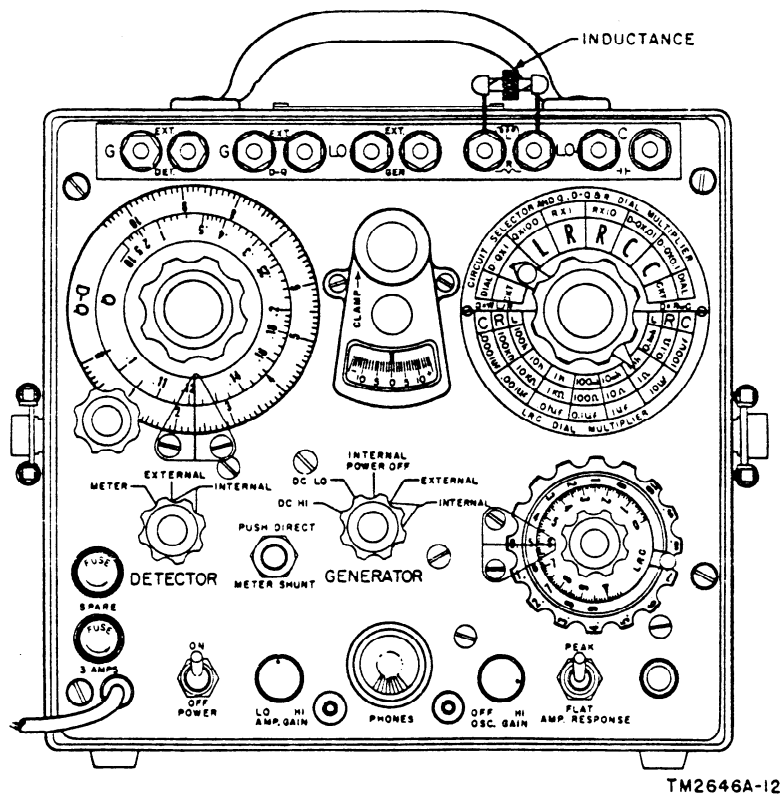

Figure 11. Bridge controls set for measurement of inductors with storage factors (.02 to 10.5).
a. Connect the unknown inductor to the binding posts marked L and R (fig. 11 and 12). Connect the shield, if any, to the binding post marked LO.
b. Set the circuit selector switch to L and D-Q x 1 for an inductor that has a storage factor (Q) of less than 10.5, and to L and Q x 100 for an inductor that has a storage factor between 9.5 and 1,000. If the approximate storage factor is not known, or cannot be determined, select either position of the circuit selector switch and try to obtain a null indication. If a null cannot be obtained in the position selected, the other position of the circuit selector switch is then the correct setting.
*Example 1:* The settings of the controls in figure 11 are for the final balance positions of an inductor that has an inductance of
*Example 3:* The settings of the controls that are shown in figure 11 are for the final balance positions of an inductor that has a storage factor (Q) of 2.30. The controls read as indicated in example 1 of *j* above.